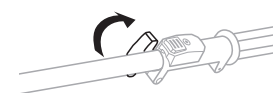

Fig. 4A
2. Loosen the wing knob to release the shaft. (Fig.4A)